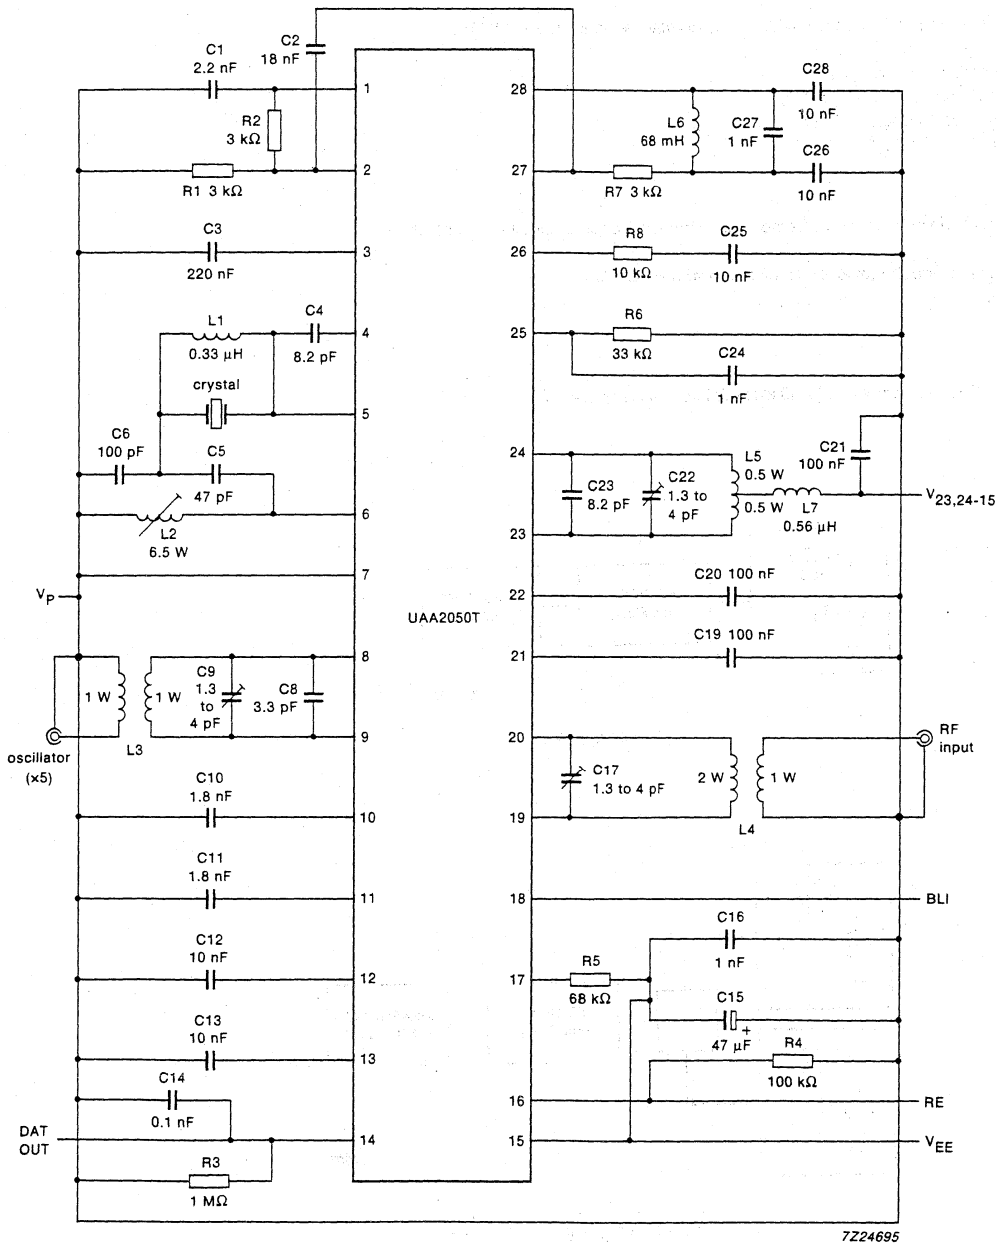

Fig.4 Test circuit (UHF).
$V_P = 2.0\text{ V}$ ;  $V_{23,24-15} = 1.1\text{ V}$ ; all voltages referenced to  $V_{EE}$ ;  $T_{amb} = -10$  to  $+55\text{ }^\circ\text{C}$ ; typical values measured at  $T_{amb} = 25\text{ }^\circ\text{C}$ ; test circuit as Fig.4; L2 and L3 short-circuited; unless otherwise specified
For AC test procedures refer to section 'TEST INFORMATION'.  $V_P = 2.0\text{ V}$ ;  $V_{23,24-15} = 1.1\text{ V}$ ; all voltages referenced to  $V_{EE}$ ;  $T_{amb} = -10$  to  $+55\text{ }^\circ\text{C}$ ; typical values measured at  $T_{amb} = 25\text{ }^\circ\text{C}$ ; test circuit as Fig.4 and printed-circuit board layout as Fig.7; test signal:  $f = 469.200\text{ MHz}$ ; deviation =  $\pm 4.5\text{ kHz}$ ; modulation = 256 Hz rectangular; channel spacing = 25 kHz; unless otherwise specified
1. After performing the DC tests, prepare the device for AC testing (as shown in Fig. 4).
For information concerning the crystal oscillator and inductors, refer to Fig.4.